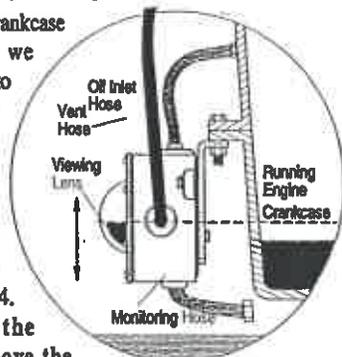

Figure 4
2. Attach the 1 inch (25 mm) diameter, flexible monitoring hose to the crankcase and the monitoring port on the LM300. See Figure 4. **CAUTION:** The hose must slope slightly downward from the LM300 and **MUST NOT** have any droop or low spots.
3. Install the 1/2 inch (13 mm) I.D. x 3 ft. (914 mm) hose to the vent connection on the LM300 to the vent connection on the crankcase. See Figure 4. The vent connection on the crankcase must be well above the regulated oil level. All hoses must be clear of obstructions.
4. Fill the crankcase to the proper oil levels. With the engine running and warm, loosen the mounting bracket adjustment bolts and adjust the LM300 so that the oil level in the sight gauge is aligned with the white "index line" on the dial (Figure 4). Tighten the adjustment bolts securely.